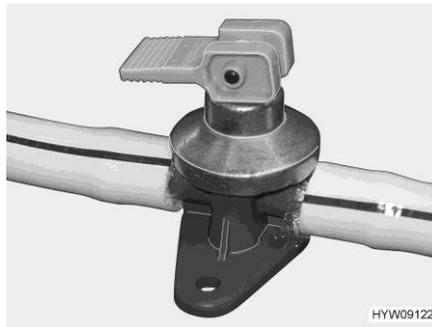
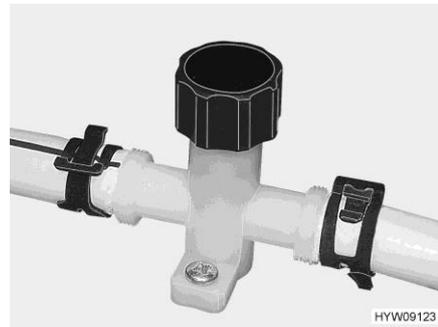

Fig. 146 Drain cock with rocking lever
Fig. 147 Drain cock with knob
- Open all drain cocks (Fig. 146 or Fig. 147).